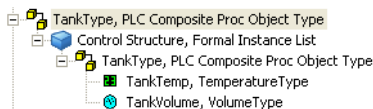

Figure 9. Created Tank Object Type
20. In the Process Object Configuration aspect, click the  button and add an instance of the real signal type 'VolumeType'. Name the instance 'TankVolume'. Figure 9 shows the end result.